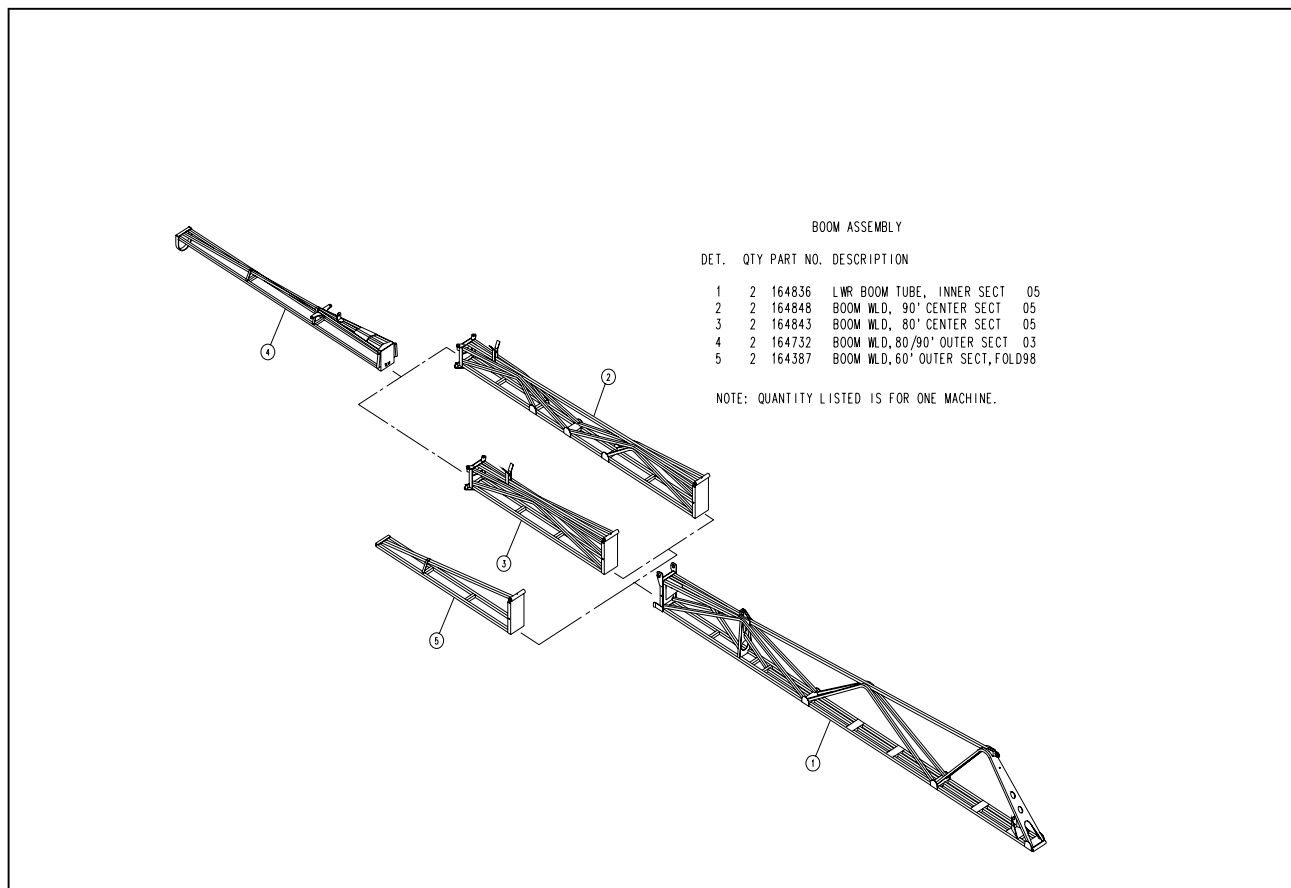

FIG 4.7
- The booms come in 60', 80', or 90' lengths (fig. 4.7). Refer to the parts manual for detailed drawings for the correct hardware and hydraulic components when attaching to the transom.